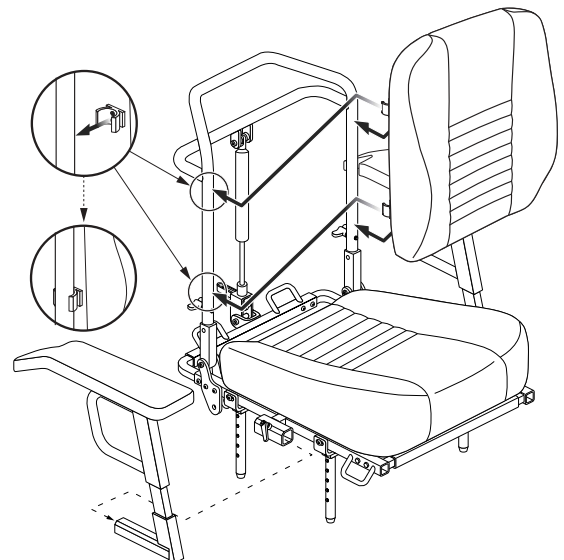

Figure 10. Install Comfort Cushion Seatback
The comfort cushion seatback comes equipped with four (4) clips that simply snap on to the back canes. See figure 10.